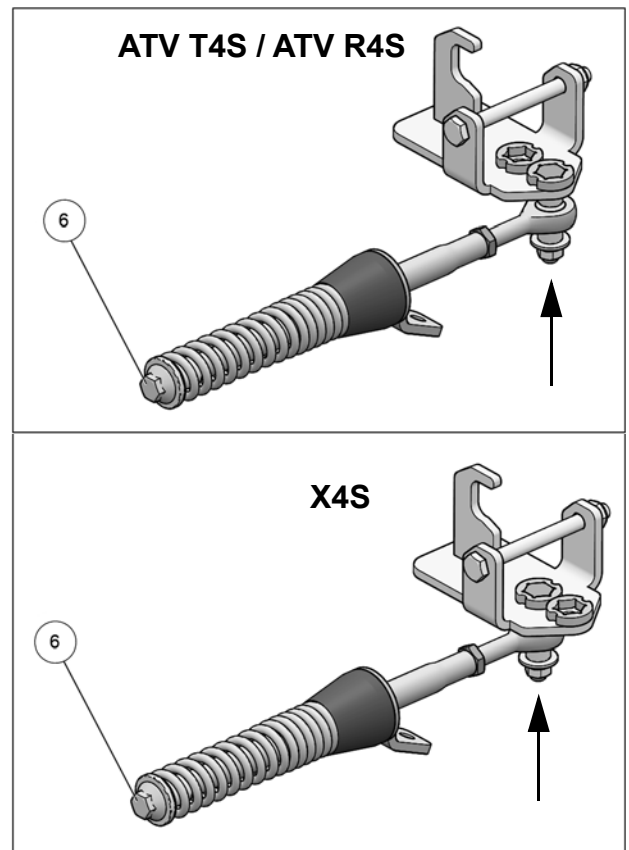

Fig. 11
10. Verify that spring assembly bolt (6) is tightened to the recommended torque specification: 75 N•m [55 lb•ft]. Refer to Fig. 11